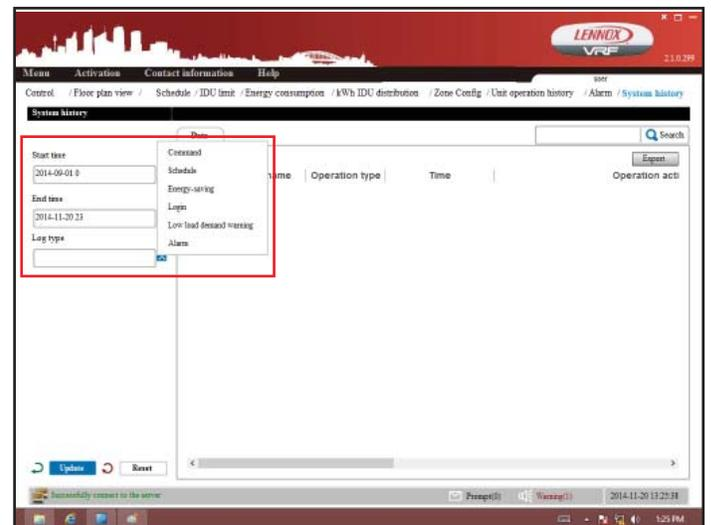

Figure 68. Select Log Type
9. Tap the Log type field. A menu displays. See figure 68.